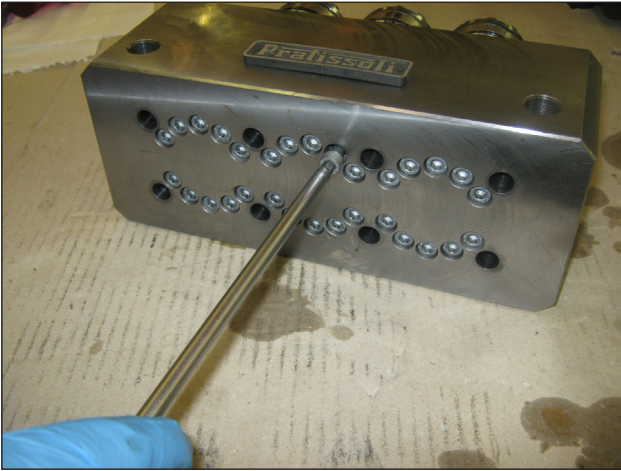
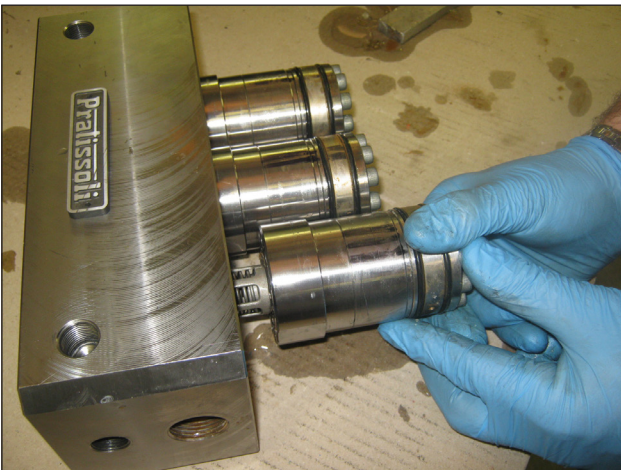

Fig. 21
Fig. 22
- Take out the M6x75 screws fastening the liners to the head as shown in Fig. 21 and proceed as shown in Fig. 22.